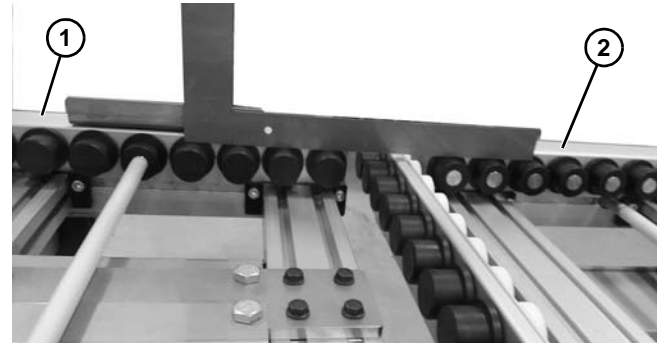

Figure 42
1. Adjust stroke so that pallet (Figure 42, item 1) mates correctly with sending/receiving conveyor (Figure 42, item 2).